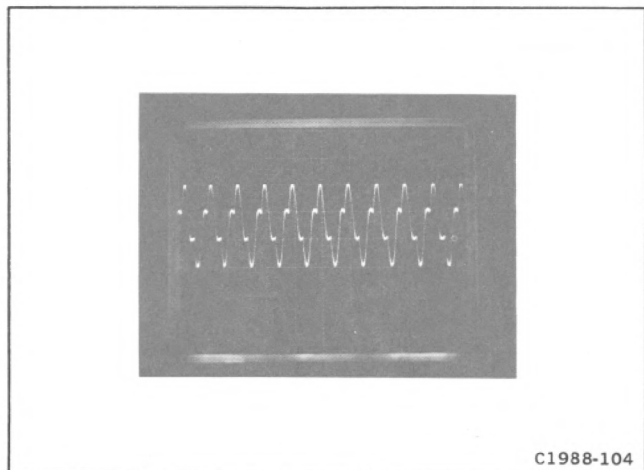

Figure 4-7. Current waveform at A23T30 for normal inverter operation at line voltage of 115 volts.
5. If a burst waveform was obtained in part 4 above, check for stable inverter operation when the line input voltage is increased to about 85 volts. Figure 4-7 shows the current waveform at A23T30 for normal inverter operation at a line source of 115 volts. (NOTE: The test oscilloscope horizontal sweep rate has been changed to about 50 microseconds/division for Fig. 4-7).